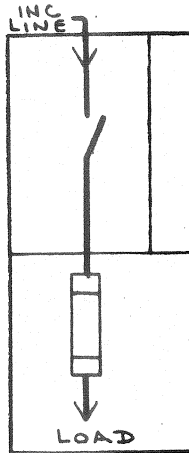

FIG. 2
- Single unit equipment - (Fig. 2)
## 2. Single Unit Equipment - Fig. 2